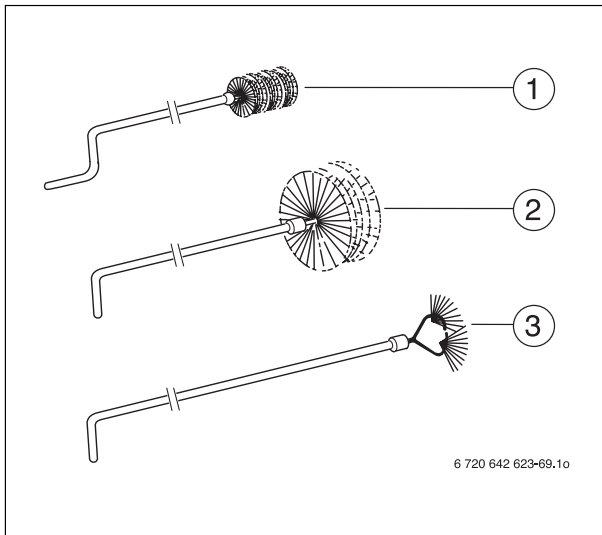
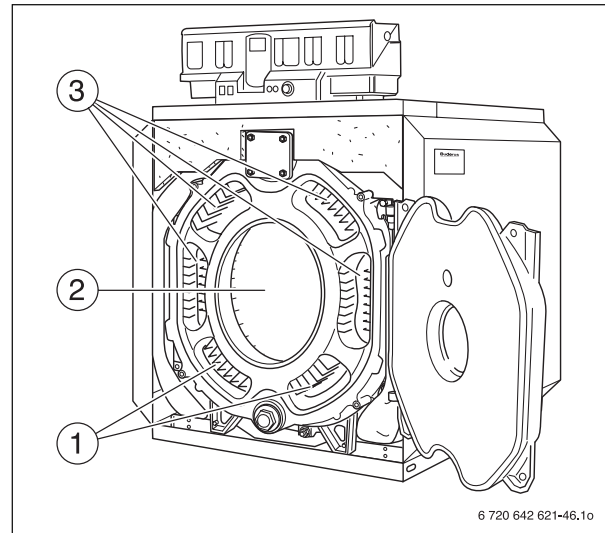

Fig. 57 Cleaning brushes
Fig. 58 Heat exchanger heater flue, cleaning
The various brush types available from **Buderus** (optional extras) are shown in Fig. 57.
- ▶ Clean the flue gas passages (Fig. 58, [1]) starting at the front and working towards the back with cleaning brushes 1 and 2 (Fig. 57).
- ▶ Clean the rest of the combustion chamber (Fig. 58, [2]) with cleaning brush 2.
- ▶ Clean the bottom flue gas passages from the front with cleaning brush 2 (Fig. 58, [1]).